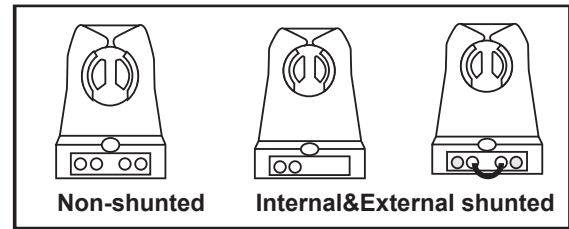

Fig:1 -Lampholder Type
- 7) Identify what type of lampholders are in fixture (Fig.1), If existing lampholder is internally shunted, then replace with new non-shunted lampholder If lampholder is shunted with a jumper wire (Fig.2), remove wire to convert into non-shunted.